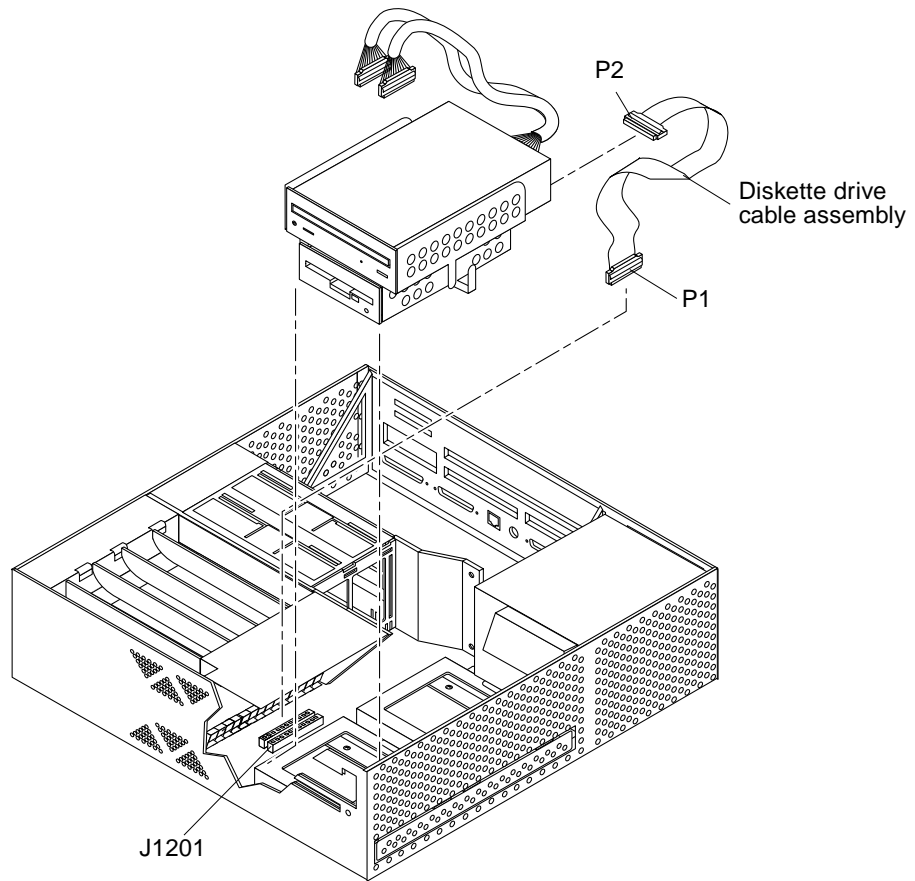

FIGURE 8-4 Removing and Replacing the Diskette Drive Cable Assembly
4. Disconnect the following (FIGURE 8-4:
1. Replace the diskette drive cable assembly as follows (FIGURE 8-4):